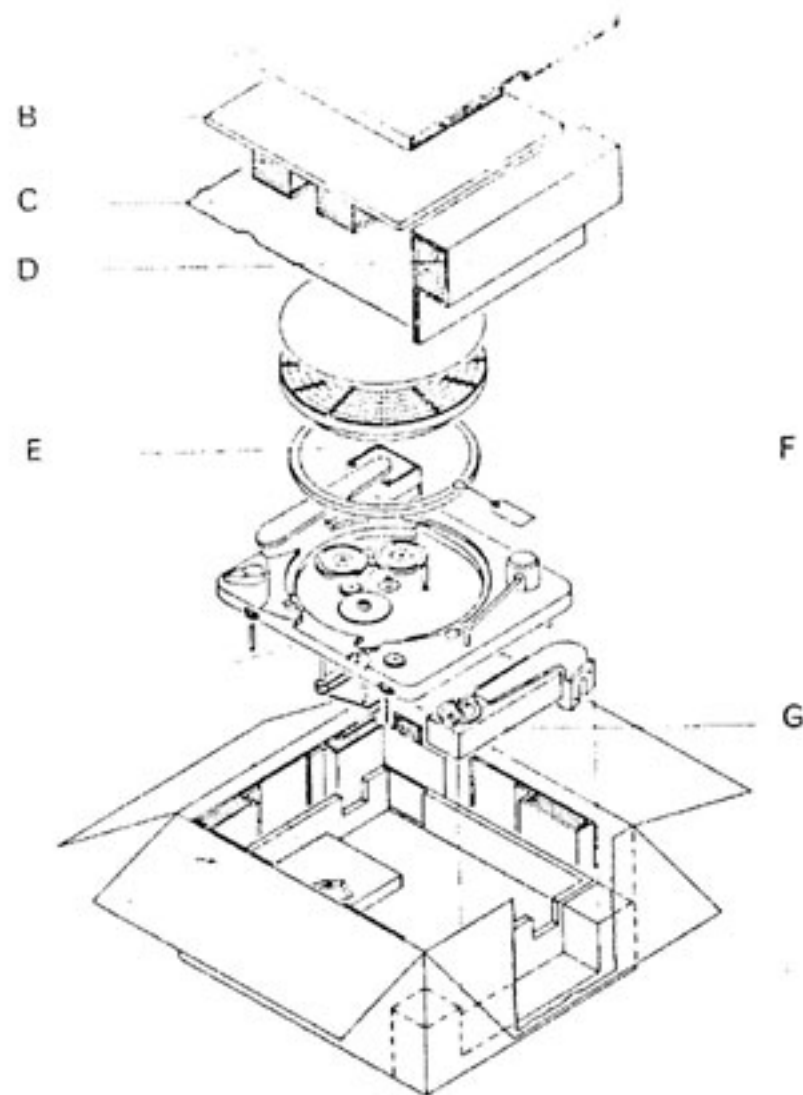

Fig. 2
3. Remove corrugated spacers A and B, paper C and lateral wedge D (see Fig. 2, page 7).
After the turntable has been placed into the box according to Fig. 2 and the top cover closed with adhesive paper strips, turn the box upside down and open the bottom cover. Check that all wedges and accessories are in the position corresponding to this illustration.